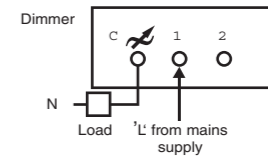

Figure 1 - typical one-way switch circuit
15. Ensure each wire is connected to the appropriate terminal, as shown in the typical diagram - Figure 1.